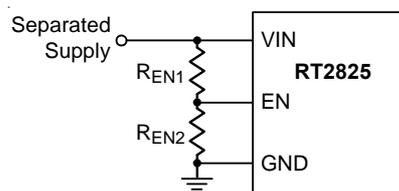
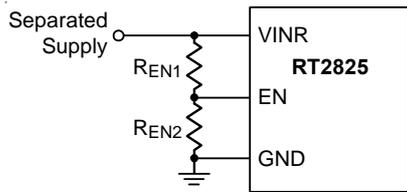
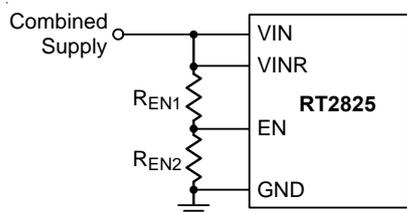

Figure 4. Resistor Divider for VIN UVLO Setting
Figure 5. Resistor Divider for VINR UVLO Setting,  $V_{INR} \geq 4.5V$
Figure 6. Resistor Divider for VIN and VINR UVLO Setting
The EN pin can also be applied to adjust its Under-Voltage Lockout (UVLO) threshold with two external resistors divider from the both input VINR and VIN pins used together or separately, and the application structures can refer to Figure 4, Figure 5, and Figure 6.
Under above application structures, the adjustable UVLO function of EN pin allows to achieve a secondary UVLO on VIN pin, a higher UVLO on VINR pin or even a common UVLO on both VINR and VIN pins. For example, if the EN pin is configured as Figure 5 and the output voltage is set to a higher value 10V. The device may shut down after soft-start sequence is over, and the reason for the result is that the  $V_{OUT}$  is still lower than its set target during the  $V_{INR}$  rising period even though  $V_{INR}$  has already risen to its internal UVLO threshold 4V. To prevent this situation, an adjustable UVLO threshold from EN pin is useful to avoid such high output transfer condition. The exact UVLO thresholds can be calculated by Equation (3). The setting  $V_{OUT}$  is 10V and  $V_{INR}$  is from 0V to 18V. When  $V_{INR}$  is higher than 12V, the device is triggered to enable the converter. Assume  $R_{EN1} = 56k\Omega$ . Then,